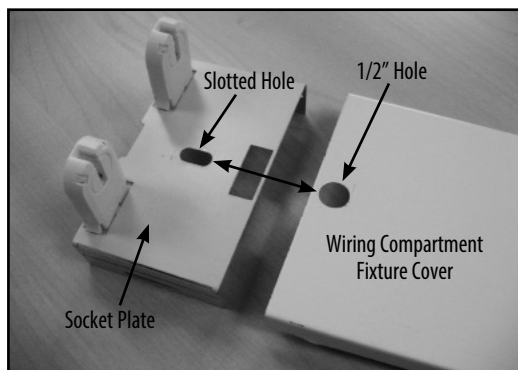

Figure 6: Align the slotted hole on the left-side Socket Plate to the 1/2" hole on the Wiring Compartment Fixture Cover.
- Install the two (2) new Wiring Compartment Fixture Covers, Part Number 14080. Installation of each Fixture Cover requires two (2) 1/4 Turn Retainer Clips. At each end of the Fixture Cover there is a 1/2" (12.7mm) round hole. Start at either end of the fixture housing, place the 1/2" hole on the Fixture Cover over the slotted hole on the end socket plate, insert one (1) 1/4 Turn Retainer Clip through the Fixture Cover and socket plate holes, then rotate the Retainer Clip one quarter turn to attach the Fixture Cover. See Figures 6 and 6a. Follow the same procedure on the opposite end of the Fixture Cover.